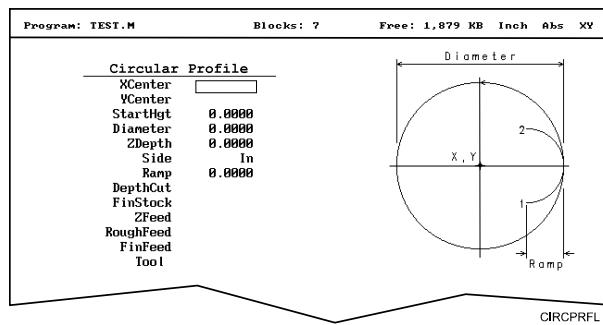

Figure 4-14, CIRCULAR PROFILE Graphic Menu
The Circular Profile Cycle cleans up the inside or outside profile of an existing circle. Refer to **Figure 4-14**.
2. Highlight **Circ.Profile** and press **ENTER** to display the **CIRCULAR PROFILE** Graphic Menu. Refer to Figure 4-14, CIRCULAR PROFILE Graphic Menu.